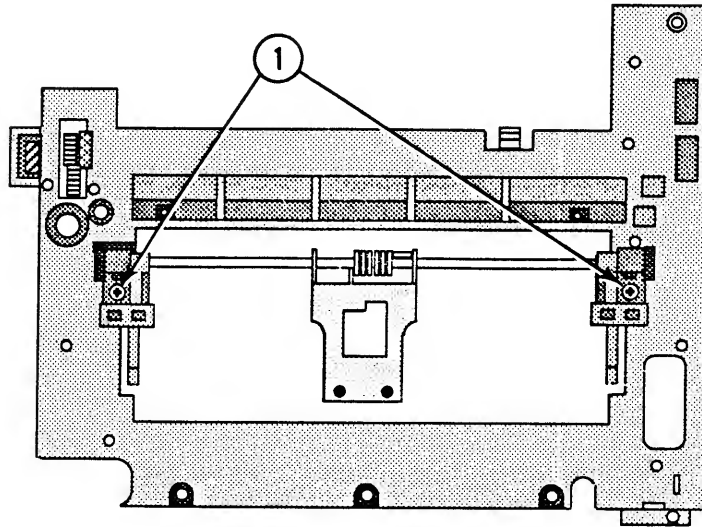

FIGURE 52
4. Remove the two Phillips screws (Figure 52, #1) that secure the pressure assembly to the cassette holder. Remove the pressure assembly.